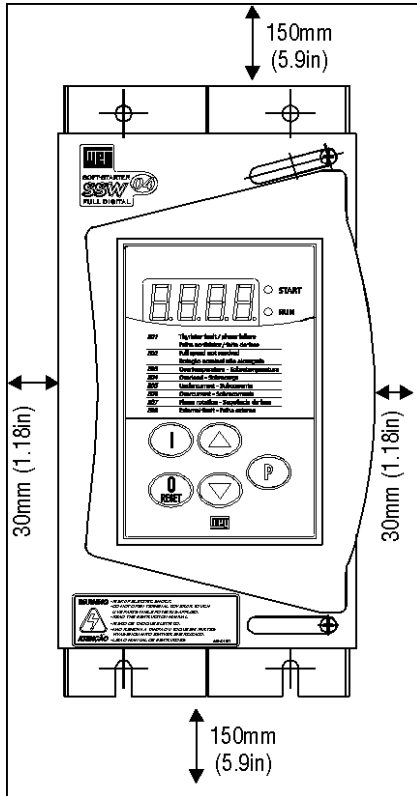

Figure 3.1 - Free space for ventilation
- ☑ Allow for free space around the SSW-04, as shown in Fig. 3.1.